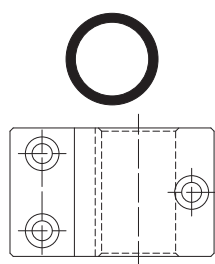
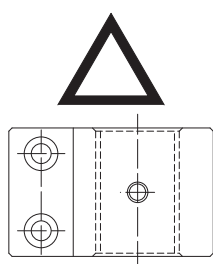

Fig. 7
Fig. 8
- ② When installing a Spindle to the holder, recommended installation method is shown Fig. 7. Refer to " ③ How to fabricate the Split Type Holder. If this is not possible, install as shown in Fig. 8.